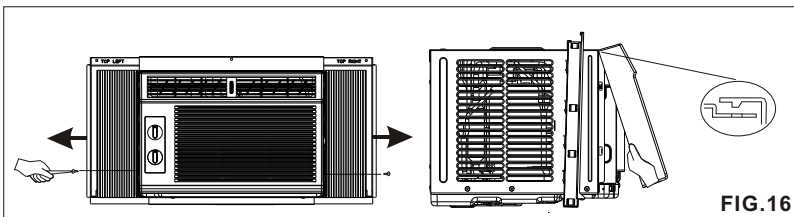

FIG.16
2. Pull the grille up from the bottom and pull the top of the grille away from the case to lift the top tabs out of their slots, as shown in FIG.16.